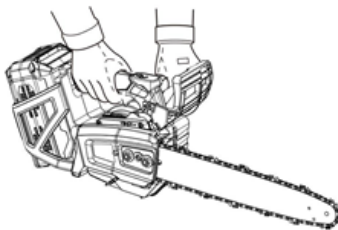

Fig 3
- Maintain a firm grip on the machine with both hands (Fig. 3), with your right hand on the rear handle and your left hand on the front handle, when the unit is in operation. Use a firm grip with your thumbs and fingers encircling the chainsaw handles. A firm